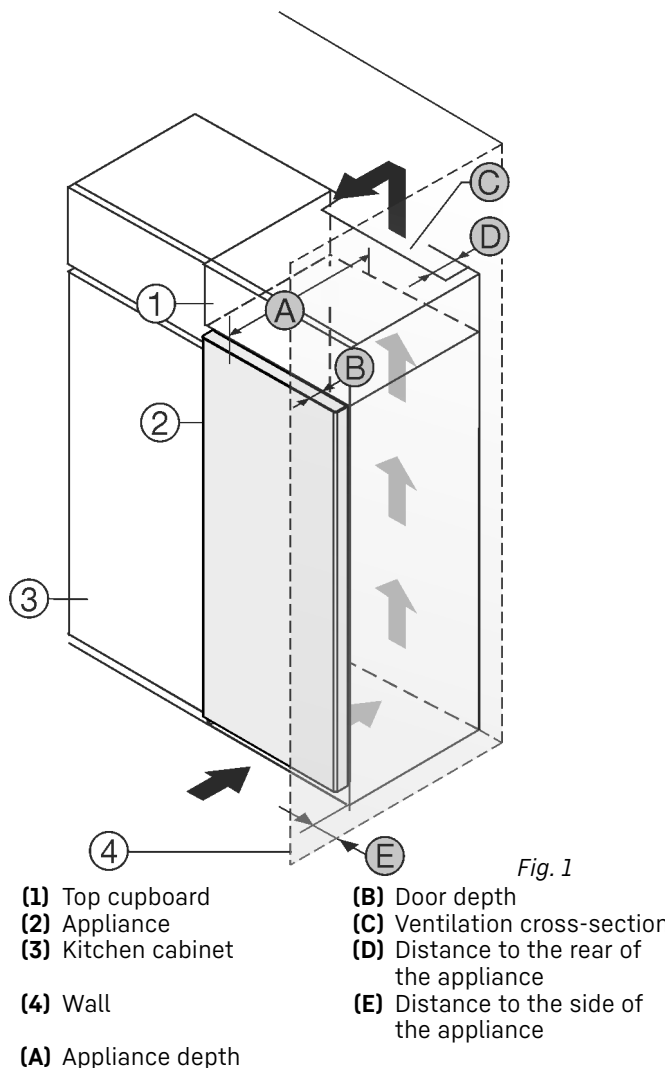

Fig. 1
Set up the appliance directly next to the kitchen cabinet Fig. 1 (3).
There must be a ventilation shaft at the depth Fig. 1 (D) of the back of the top cupboard over the entire width of the top cupboard.
The cross section of the ventilation gap Fig. 1 (C) must be maintained below the ceiling.
If the appliance is installed with the hinges next to a wall Fig. 1 (4), the distance between the appliance and the wall must be at least 13 mm.
If the appliance is installed with the hinges next to a wall Fig. 1 (4), the distance between the appliance and the wall must be at least 20 mm.
In order to be able to fully open the door, the appliance must protrude by the depth Fig. 1 (B) of the door from the front of the kitchen cabinet. Regardless of the depth of the kitchen cabinets Fig. 1 (3) and use of wall spaces, the appliance can protrude further.